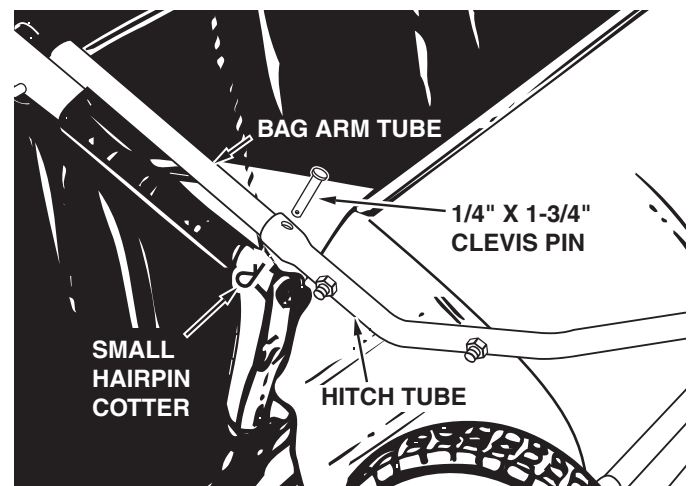

FIGURE 25
17. To attach the hopper bag to the sweeper, slide the ends of the bag arm tubes into the ends of the hitch tubes and secure with two 1/4" x 1-3/4" clevis pins and small hairpin cotters. See figure 25.